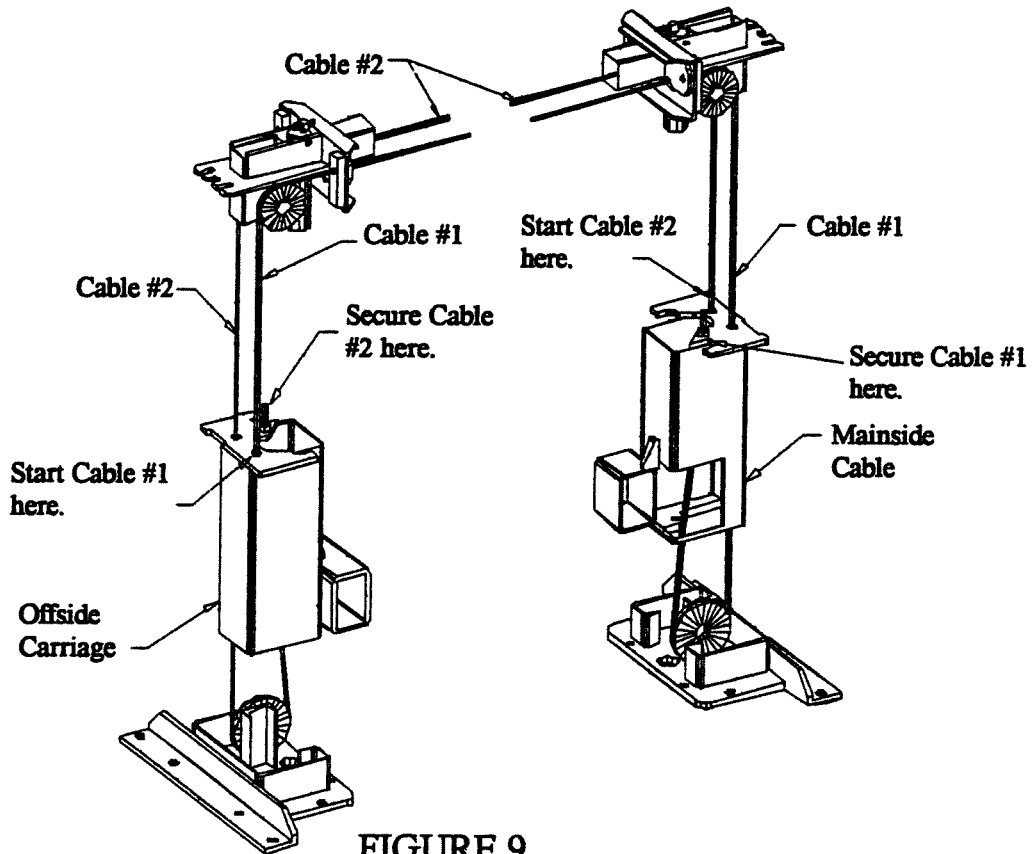

FIGURE 9
16. Refer to Figure 9 for installation of carriage cables. Assemble a 3/4" NF